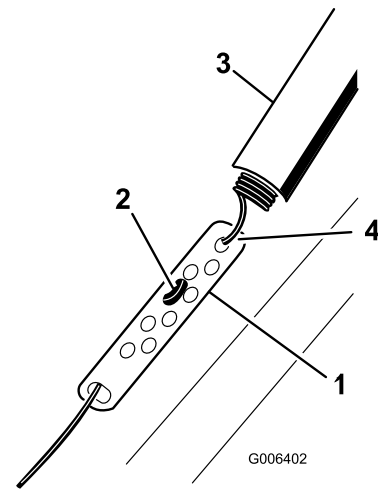

Figure 26
1. Slide up the spring cover and unhook the spring from the adjuster link (Figure 26).
2. Move the Z-fitting to a higher or lower hole on the adjuster link as needed to obtain the 1/16-inch to 1/8-inch (2 mm to 3 mm) gap between the control bar and the handle (Figure 26).